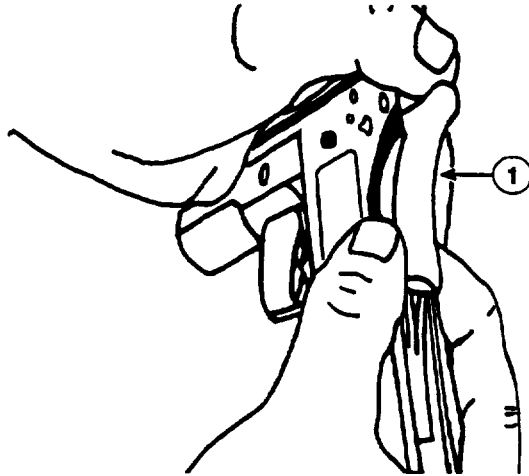
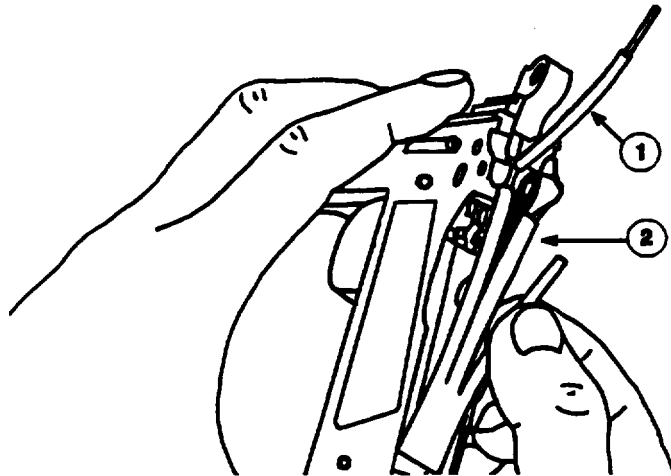
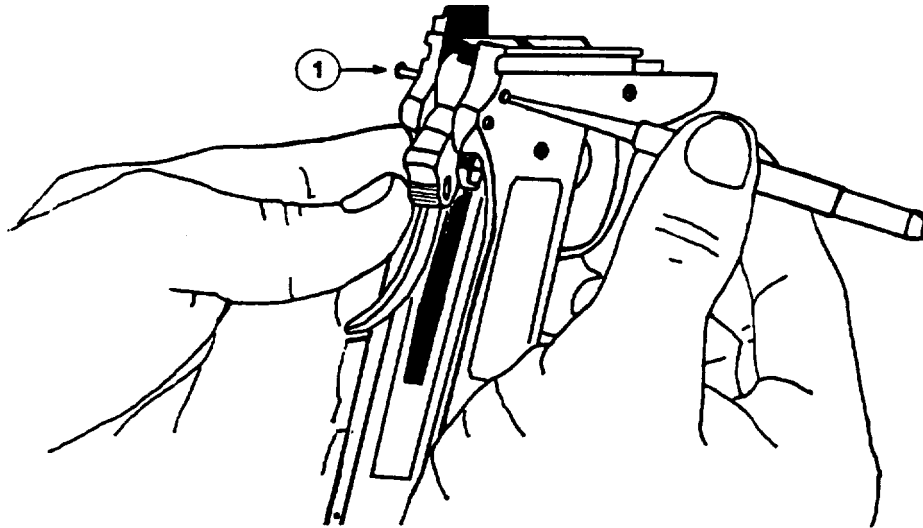

Figure 6-24. Removing Beavertail Grip Safety
Figure 6-25. Removing Sear Spring
Figure 6-26. Removing Hammer Pin
(9) Remove beavertail grip safety (1), Figure 6-24.
(10) Lift hammer strut (1), Figure 6-25, and remove sear spring (2).
(11) Using a 3/32" punch, push hammer pin (1), Figure 6-26, out of the left side of the pistol.
(5) Inspect beavertail grip safety (1), Figure 6-24, for burrs, wear and cracks on the tip which engages the trigger. If unserviceable, replace beavertail grip safety.
(6) Inspect sear spring (2), Figure 6-25, for broken leaves, cracks and tension. If unserviceable, replace sear spring.
(7) Inspect hammer pin (1), Figure 6-26, for wear and burrs. If unserviceable, replace hammer pin.
(8) Use your hand to push the hammer pin (1), Figure 6-26, from the left side of the pistol to the right.
(9) Lift hammer strut (1), Figure 6-25, and install sear spring (2) inside receiver assembly.
(11) Drop hammer strut (1), Figure 6-25, and install beavertail grip safety (1), Figure 6-24.
(12) Cock the hammer.
(13) Install the *right side* ambidextrous thumb safety (2), Figure 6-21, and rotate it *up* to engage the hammer pin (1), Figure 6-26.